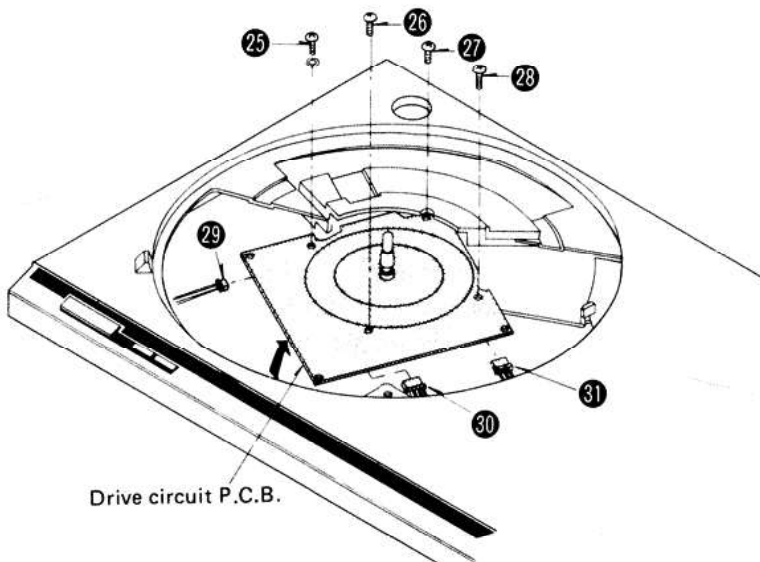

Fig. 7
2. Remove the drive circuit P.C.B. setscrews 25 ~ 28 and connectors 29 ~ 31. Remove the drive circuit P.C.B. by lifting it as shown by the arrow. Then, the electric parts can be replaced. (See Fig. 7)